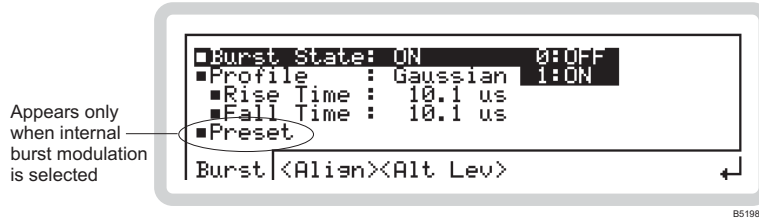

Fig. 3-32 Burst modulation
- 3 Press to view the burst profile screen (Fig. 3-32).